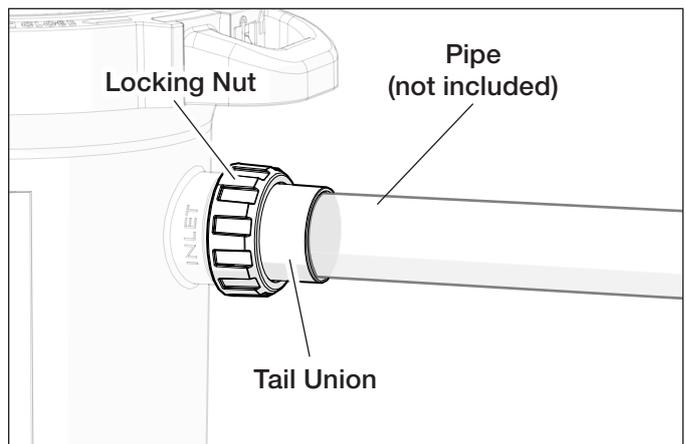

Figure 5. Plumbing Connections
6. Glue the water connection pipe from the pump to the inlet tail union (Figure 5). Glue the pool returns water connection pipe to the outlet tail union. Ensure locking nuts are placed on tail union before gluing connection pipes. Allow 24 hours for glue to dry before subjecting filter to system pressures.